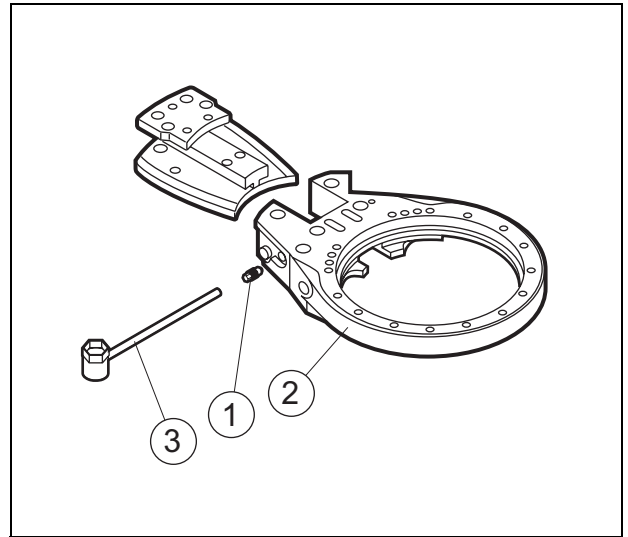

Fig. 40 Bleeding chain tension system
4. Open the bleeder valve (1) 1- 2 turns.
Use the tool P/N 0704040, (3) *See Fig. 40.*
6. Close the bleeder valve (1). As there is no saw chain installed, the piston for the tensioning will move to the outer position and stay there. Repeat this process after about 30 minutes of operation.